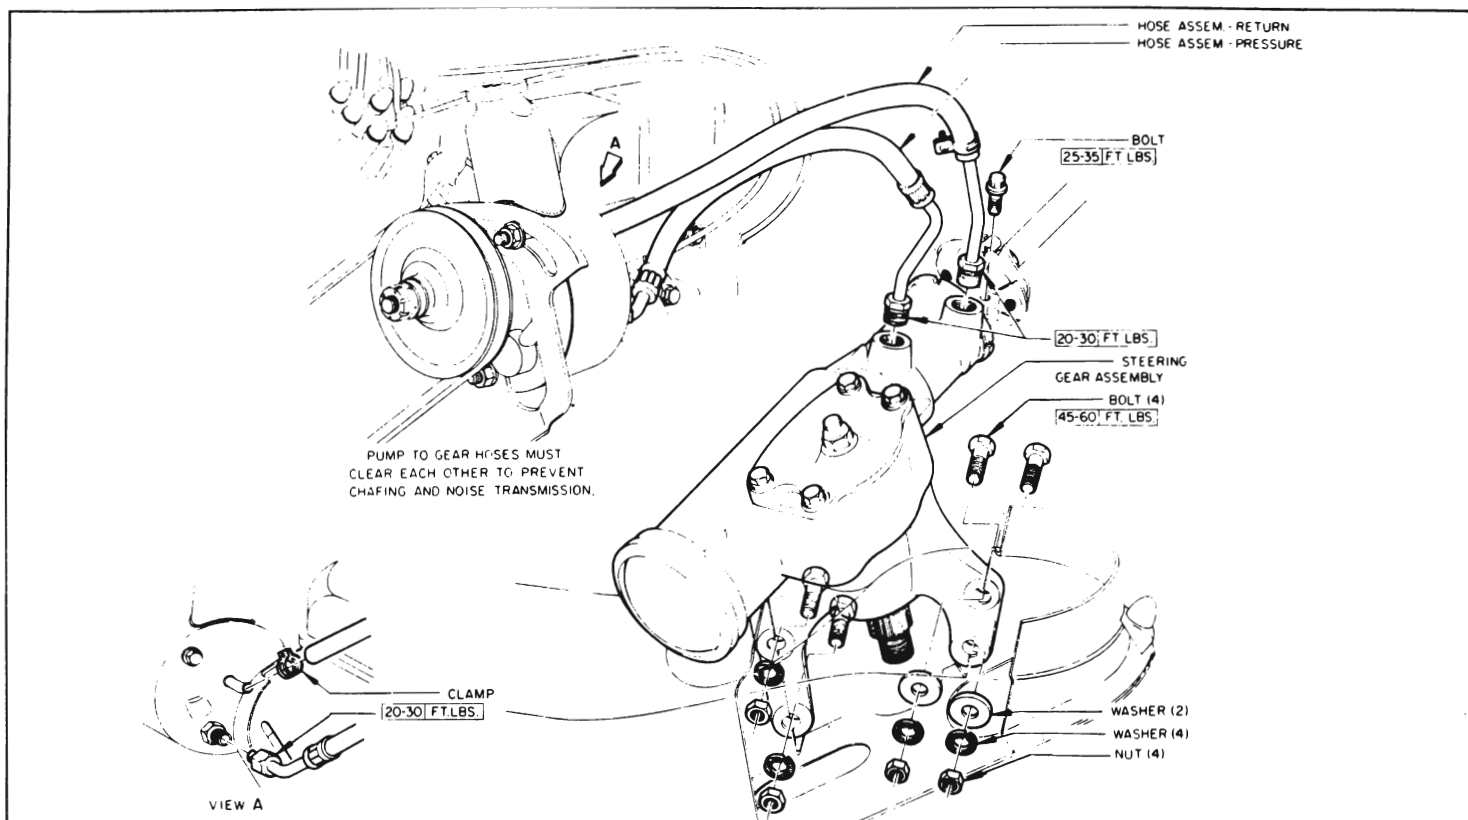

Figure 8-30—Power Steering Installation - V-8 Engine
2. Attach gear to cross member with the four bolts, nuts, lock washers and two plain washers. Torque to 55 ft. lbs. See Figure 8-30 or 8-31.
5. Line up flat in lower coupling with flat on stud shaft and slide coupling on shaft. See Figure 8-30.